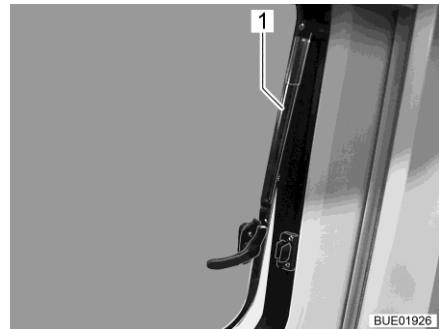

Fig. 12 Hinged window with automatic hinges, open
- Open hinged window half up to the required position. Allow the hinged window to engage automatically with the automatic hinge (Fig. 12,1). The hinged window remains locked in the required position.